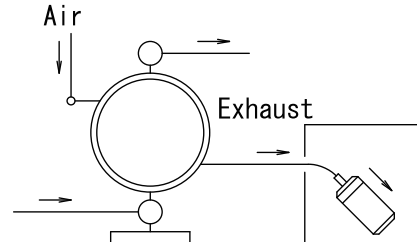

Fig.3.2
*Exhaust should be directed outside, not into the fluid in which the pump is submerged. For information on how to arrange the exhaust, see Note: Arranging outside exhaust and Fig.3.2 below.